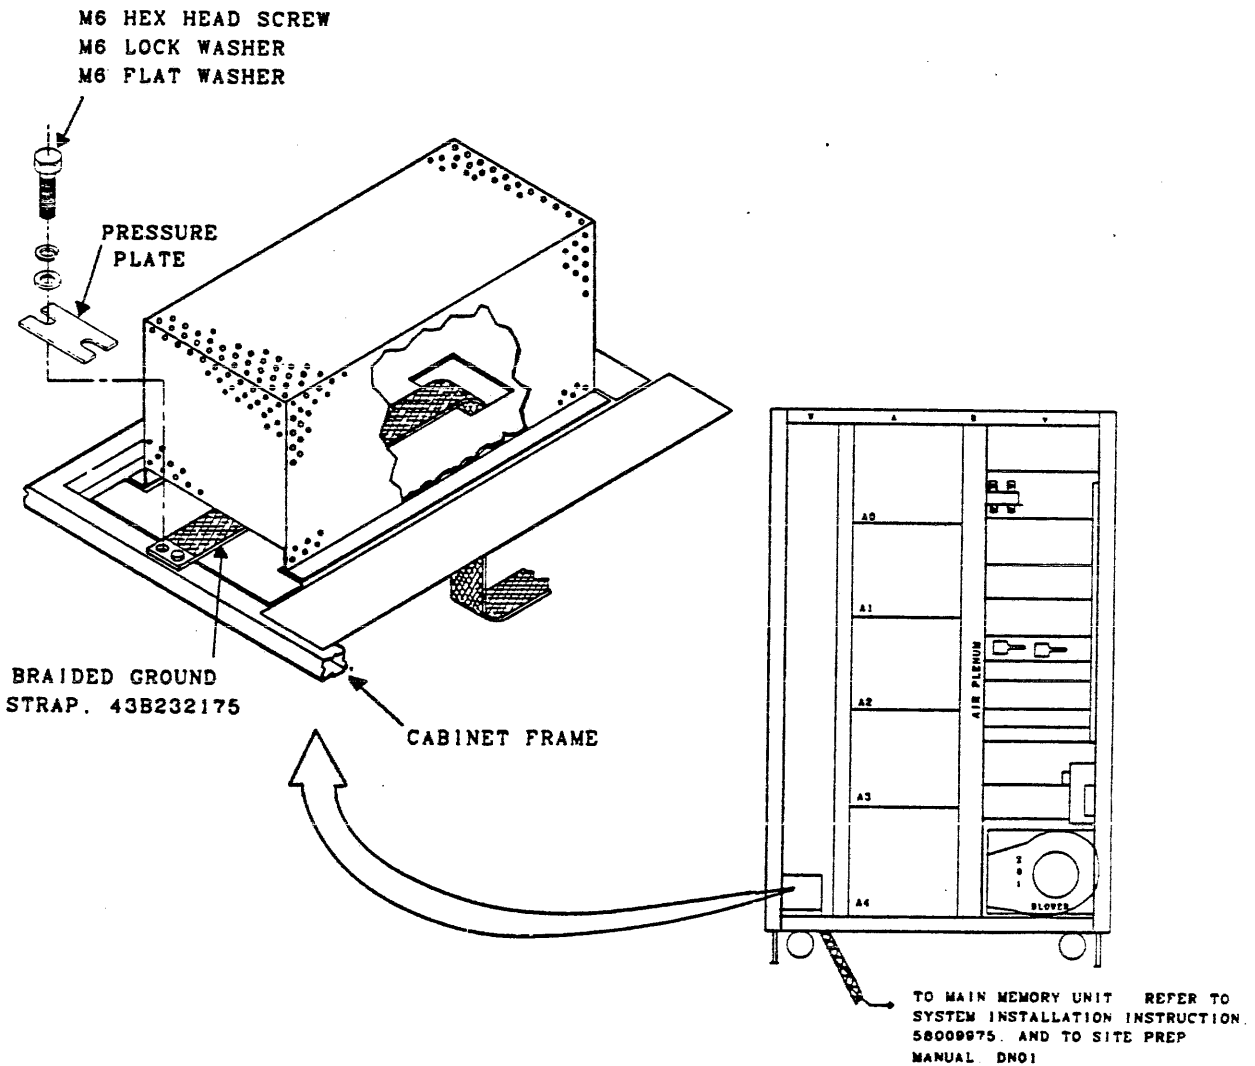

FIGURE 3-5. GROUND STRAP INSTALLATION
1. Refer to Figure 3-5.
4. Place the tinned end of the ground strap on the frame, secure and route as shown in Figure 3-5.